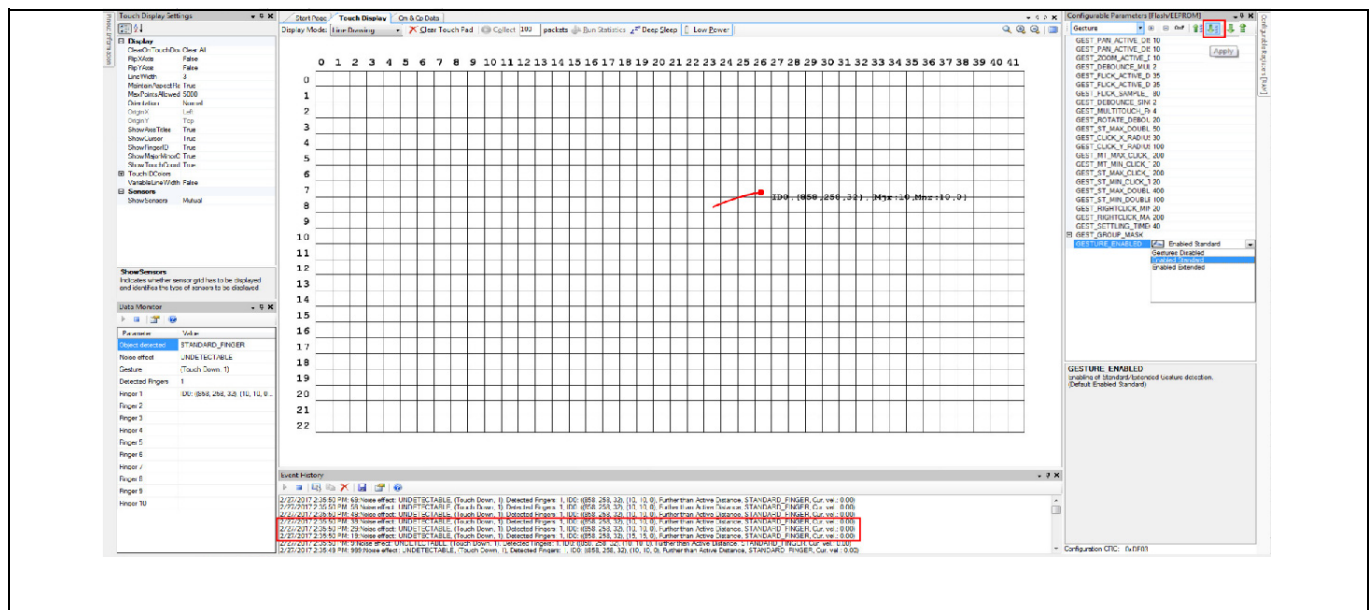

Figure 18 Gesture report in data monitor and event history panels
23. Go to **GESTURE_ENABLED** and select **Enabled Standard**. Click **Apply** arrow as shown in **Figure 18**. The Gestures are now enabled.
24. To view gestures performed, select **View > Tool Windows > Data Monitor**. Position the Data Monitor panel in the left lower panel as shown in **Figure 18**.
26. Select **View > Tool Windows > Event History**. Position the Event History panel at the bottom, as shown in **Figure 18**.